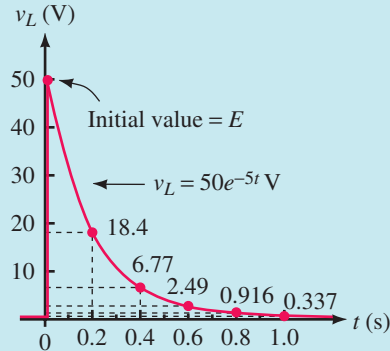

FIGURE 14–9 Inductor voltage transient.
- c. The waveform is shown in Figure 14–9.
- d. Steady state voltage is 0 V, as you can see in Figure 14–9.
For the circuit of Figure 14–7, with $E = 80$ V, $R = 5$ k Ω , and $L = 2.5$ mH: